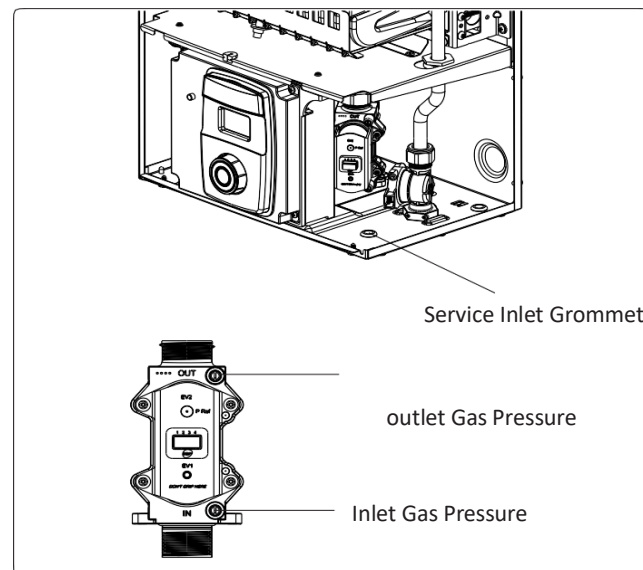

Figure 1
- 3) Remove the service inlet grommet from the base plate and insert manometer tube, see figure 1.
- 4) Loosen the screw on the outlet gas pressure test point and attach the manometer tube, see figure 1.